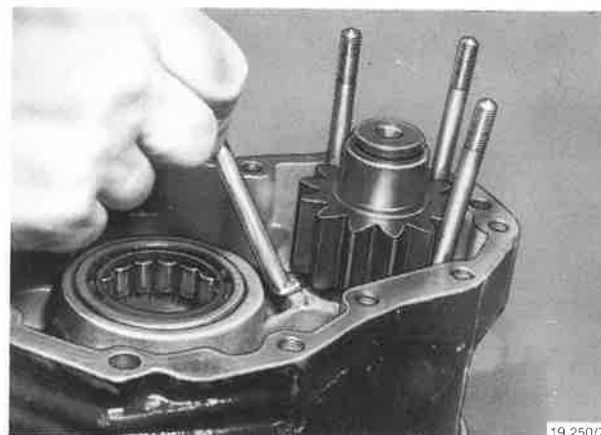

Fig. 3
- 15 Fit circlip (16) with joint facing downwards or to cylinder roller bearing of wheel flange resp. (for easier mounting regarding inserting of puller hooks see fig. 3).